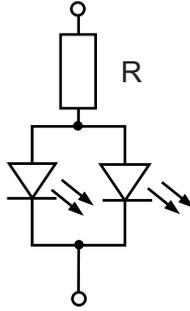

Fig. 10(c)
- (i) The resistor R shown in **Fig. 10(c)** is required to limit the current in each LED to 5 mA where the forward voltage of each LED is 2.2 volts. Calculate the following: